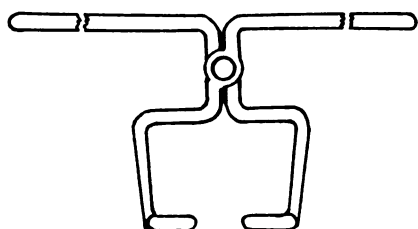

FIG. 1—THE CRUCIBLE TONGS
the carbide hopper with calcium carbide. The  $\frac{1}{2}$ -inch feeds the best. Then cut a rubber gasket to fit the plate (F) and bolt this plate down tight. Then fill the tank half full of water and close valve (S) tight. See that angle valve (B) is shut. Then pull feed lever (J) out. This allows the slotted part of the feeder to come exactly under the 2-inch pipe from the carbide hopper. Then pull the lever back and this pulls the feeder in the position as shown in Fig. 1, allowing the carbide that is in the slot to drop in the water. The proper working pressure for welding is five to fifteen pounds, and the safety valve set at twenty pounds above this amount prevents any loss of gas and at the same time takes away any danger of bursting the tank. A few pulls of the feed lever will bring up the required pressure and then an occasional pull will keep it up, as the gas is being used out.
The furnace shown here has the fault that it is somewhat difficult to remove the crucibles, but this may be largely eliminated by forming the tongs as shown in Fig. 1.